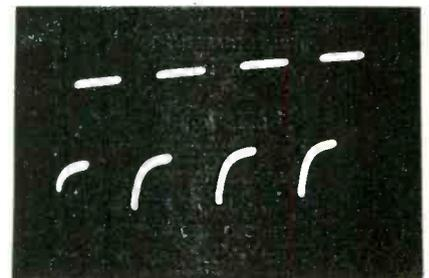

Fig. 6—Unsymmetrical tilt and curvature due to poor filters.
A. A situation of this sort is illustrated in Fig. 6. It is usually advisable to check the condition of the large electrolytic bypass capacitors in